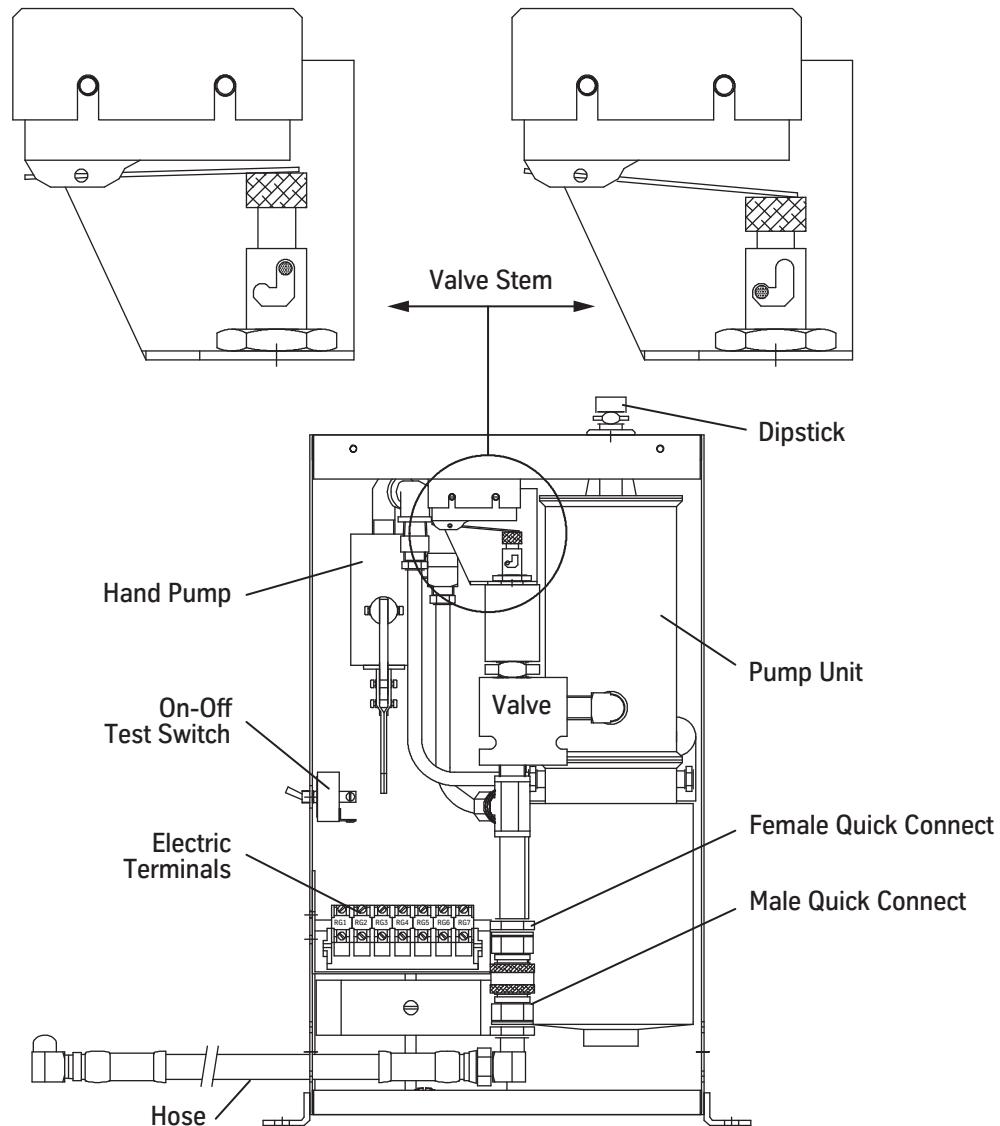
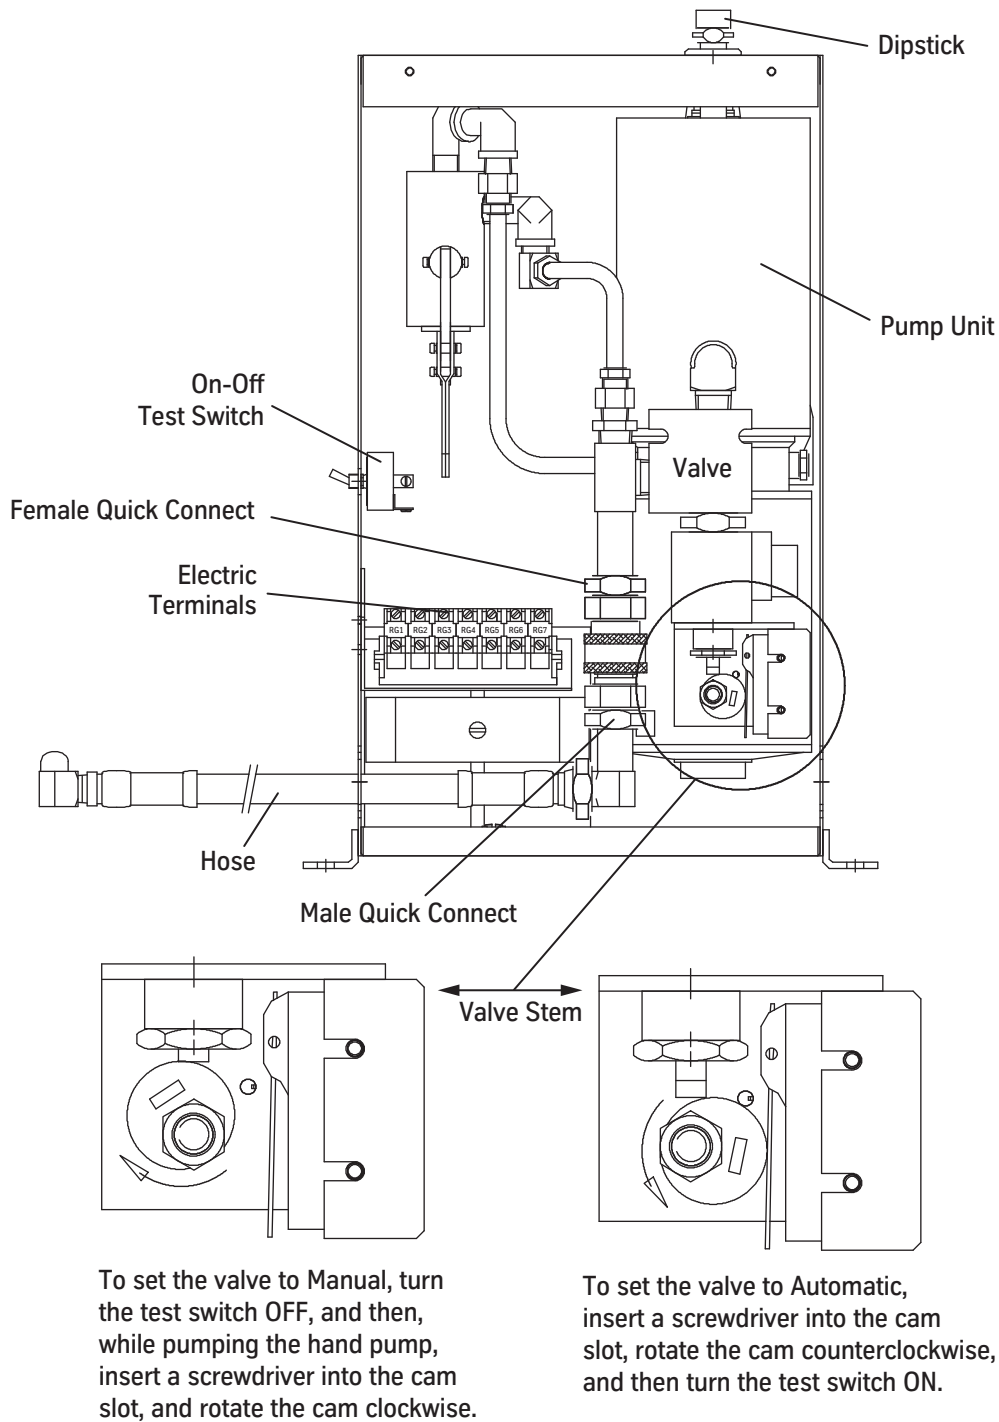

Figure 4 - Pumping Unit for 8000AC1, 8000AC2, 8000AC3, 8000AC4 (620, 622, 624, 625)
Figure 5 - Pumping Unit for 8000AC5 (626)
15. After completing the wiring and hydraulic connections, use the appropriate valve stem setting procedure shown in Figure 4 on page 27 or Figure 5 on page 28 to ensure that the valve stem (dump valve) in the pumping unit is set to Automatic.
2. Turn the test switch ON. See Figure 4 on page 27 or Figure 5 on page 28 for this procedure.